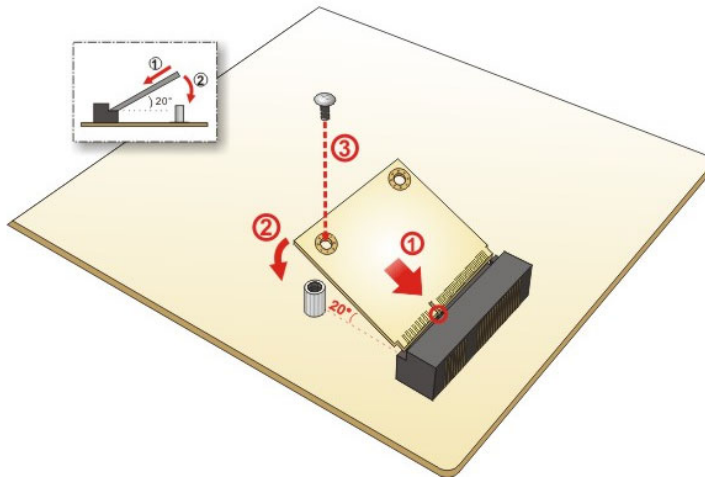

Figure 6-7: PCIe Mini Card Installation
Step 3: Line up the notch on the PCIe Mini card with the notch on the connector. Slide the PCIe Mini card into the socket at an angle of about 20° (**Figure 6-7**).
Step 4: Press the other end of the PCIe Mini card down and secure the card with the previously removed retention screw (**Figure 6-7**).